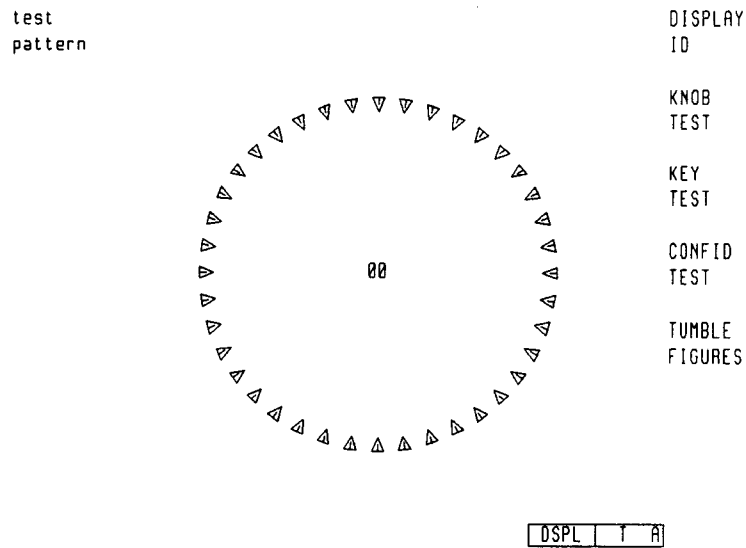

Figure 5-3. Knob Test Display
2. Press **display tests**, then **KNOB TEST**. The CRT display should be similar to the one shown in Figure 5-3. Note that the Knob Test value is 00 (as shown in the center of the circle).